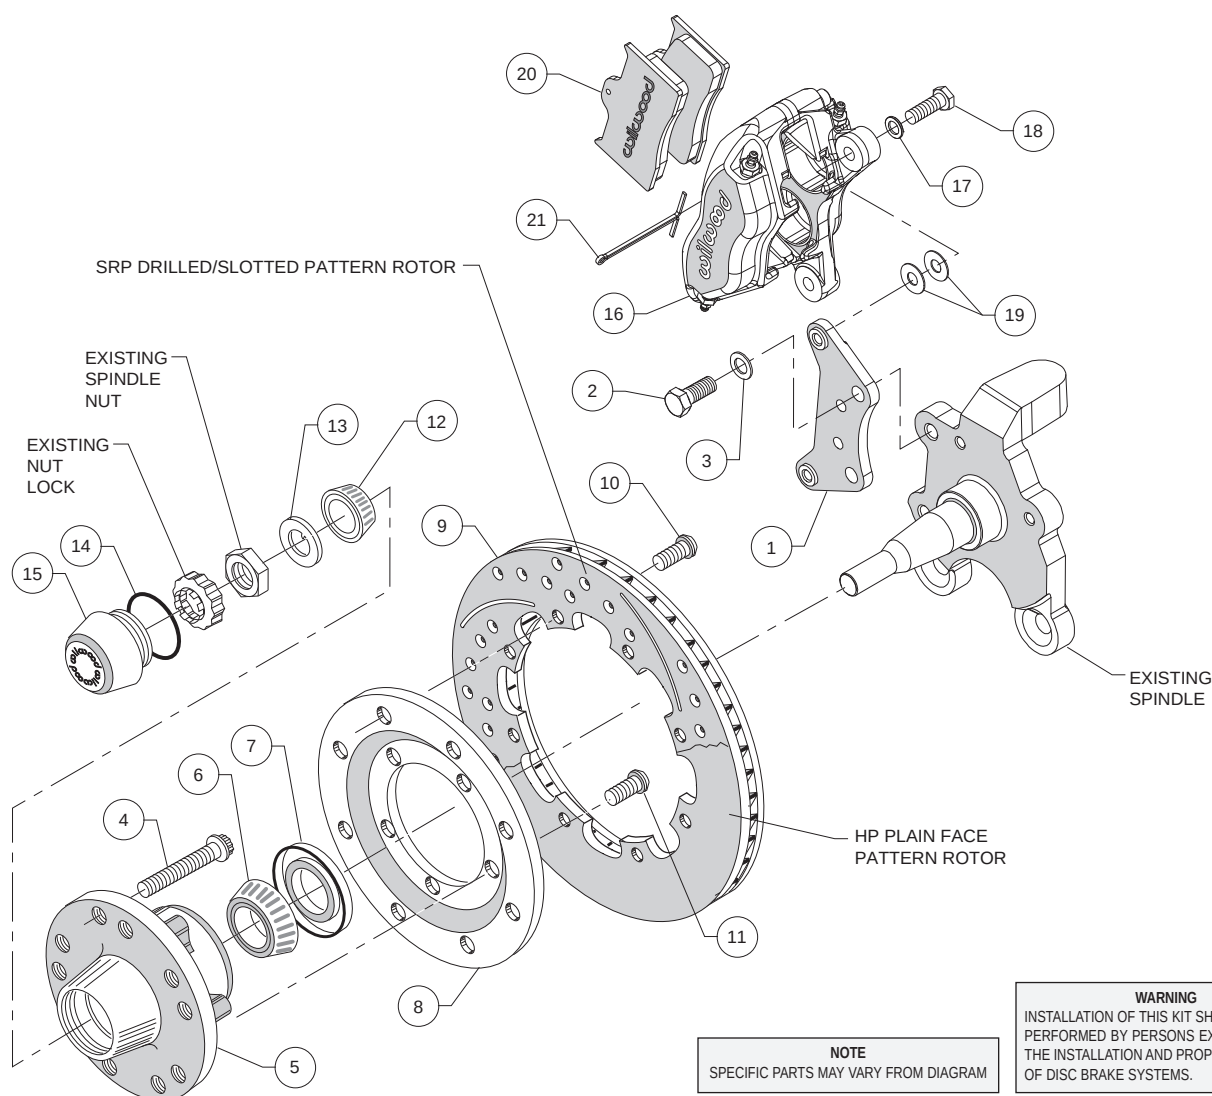
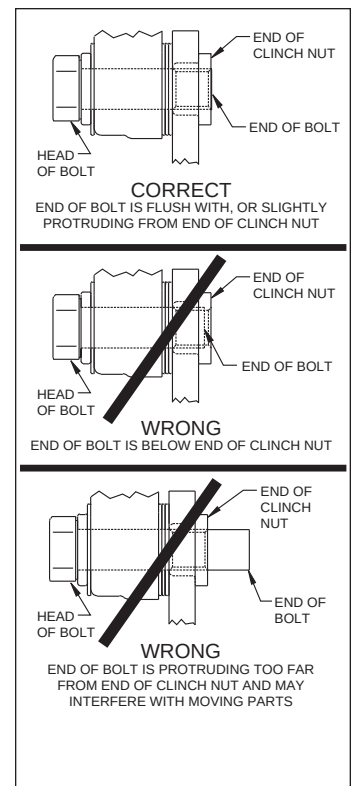

Figure 1. Typical Installation Configuration
Figure 3. Clinch Nut Engagement Diagram
Assembly Instructions (numbers in parenthesis refer to the parts list on the preceding page, and Figure 1): **CAUTION:** All mounting bolts must fully engage insert nuts. Be sure to check that all bolts are either flush or protruding through flanged side of clinch nut after shimming, Figure 3.
- Align caliper mounting bracket (1) with the corresponding holes, to the face of the spindle and attach using bolts (2) and washers (3), as shown in Figure 1 and Photo 1. Temporarily tighten the mounting bolts. Ensure that the flanged heads of the clinch nuts in the bracket are facing outboard, Photo 1. **NOTE:** The bracket must fit squarely against the mounting points on the spindle. Inspect for interference from casting irregularities, machining ridges, burrs, etc. Remove bolts one at a time, apply red Loctite® 271 to threads, and torque to 77 ft-lb.
- Orient the rotor (9) and the rotor adapter (8) as shown in Figure 1 and Photo 4. Attach the rotor to the adapter using bolts (10). Using an alternating sequence, apply red *Loctite*® 271 to the threads, and torque to 25 ft-lb.
- Mount the adapter/rotor assembly (8/9) to the hub (5) using bolts (11), as shown in Figure 1 and Photo 5. Using an alternating sequence, apply red *Loctite*® 271 to the threads, and torque to 55 ft-lb.
- Pack the small outer bearing cone (12) with high temperature disc brake bearing grease and install into hub (5). Slide the hub/rotor assembly onto the spindle. Secure using spindle washer (13) and OEM spindle nut, Photo 6. Adjust bearings per OEM specifications. Install saved OEM nut lock (if any) and a new cotter pin (not included).
- Screw dust cap (15) into hub (5), Photo 7. Friction created by the o-ring (14) on the dust cap keeps it from unscrewing. **NOTE:** The O.D. of the existing OEM spindle washer may be larger than the I.D. of the dust cap not allowing it to seat against the hub face. Therefore, use the spindle washer (13) supplied with the kit instead of the OEM washer.
- NOTE:** Please reference the caution statement at the beginning of the assembly instructions. Mount the caliper (16) onto the caliper mounting bracket (1) using bolts (18) and washers (17), as shown in Figure 1. Initially place two .035" thick shims (19) on each bolt between the caliper and the bracket, Photo 8. Temporarily tighten the mounting bolts and view the rotor (9) through the top opening of the caliper. The rotor should be centered in the caliper, Photo 9. If not, adjust by adding or subtracting shims between the bracket and the caliper. Always use the same amount of shims on each of the two mounting bolts. **NOTE:** The end of each bolt must be flush with or slightly protruding from the head of the clinch nut, as shown in Figure 3. If necessary place spare shims between washer (17) and caliper mounting ear to achieve the proper clinch nut engagement. Once the caliper alignment and clinch nut engagement are correct, remove the bolts one at a time, apply red *Loctite*® 271 to bolt threads, and torque to 40 ft-lb.